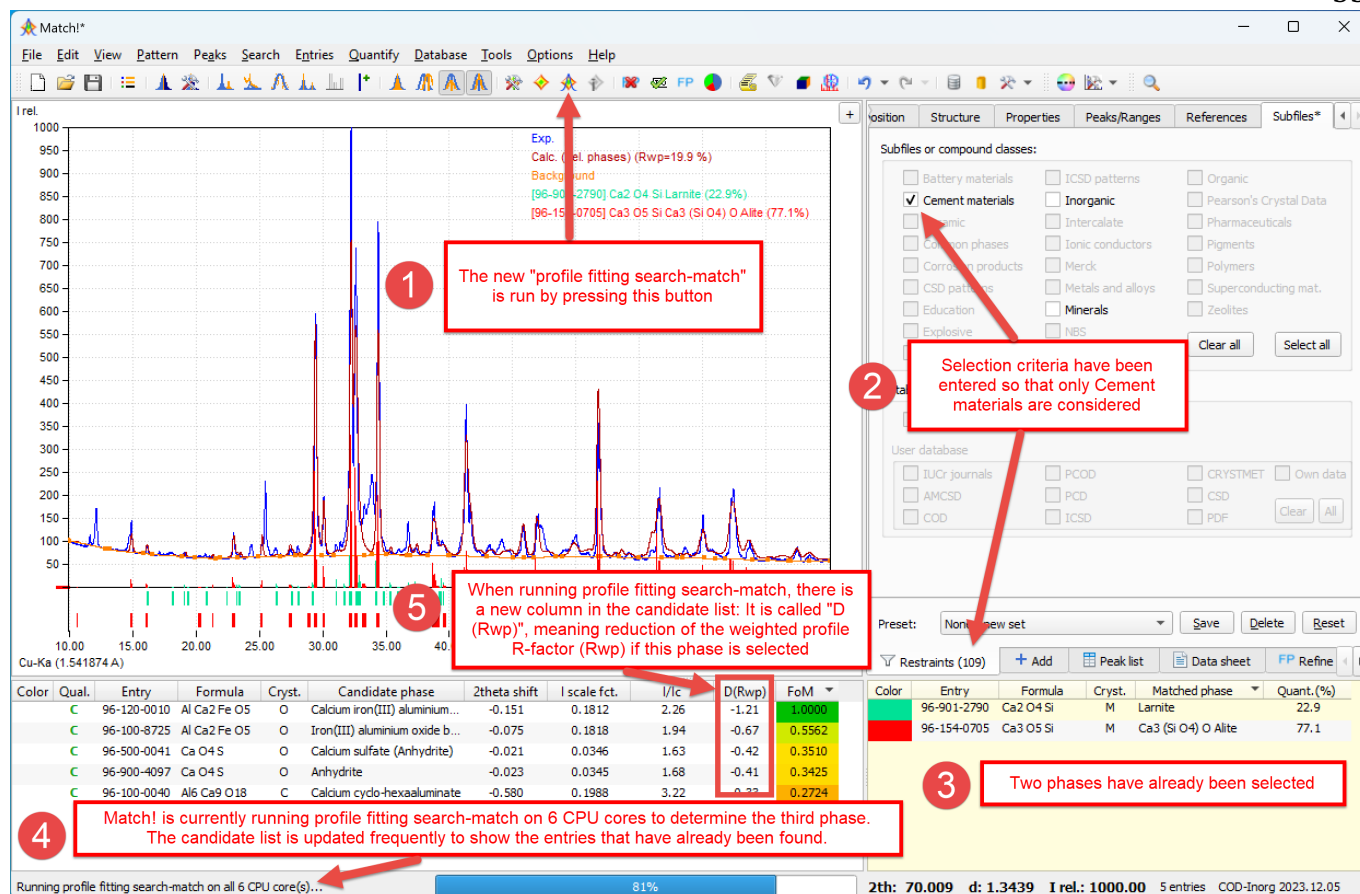

Fig. 10: Profile fitting search-match in action, working on a Cement sample
2. We strongly recommend restricting the PFSM calculation to certain groups of phases, if you have additional information about the sample. In this example (Fig. 10), it was known a-priori that the sample was a Cement material. In other cases, it may be known that certain elements may be present or can be excluded (Fig. 9). In general, additional knowledge about the sample is applied by selecting **restraints** (p. 40).